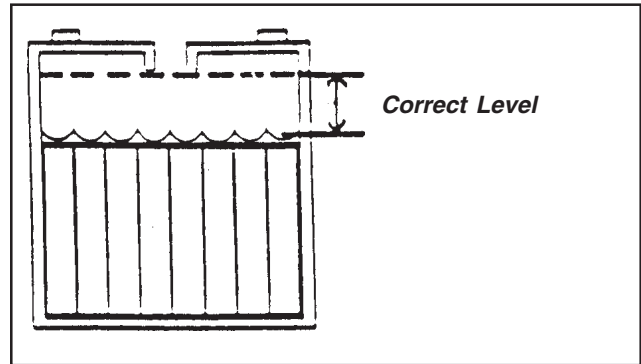

Figure 10
1. Keep the electrolyte at the correct level. The correct level is between 1/4" (1/2 cm) below the bottom of the tube in each cell and above the tops of the plates. Check the level of the electrolyte each time you charge the batteries. See figure 10.